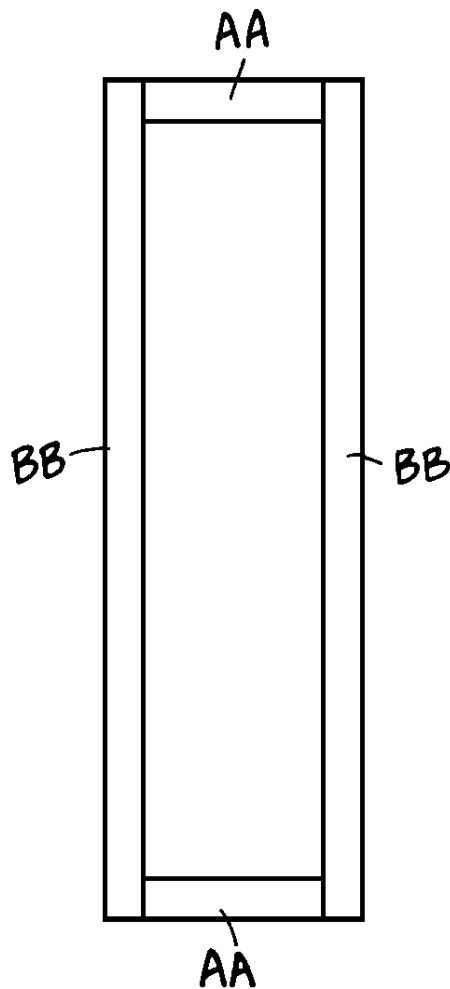

Figure 14
1. The wardrobe door is made in the same manner as the drawer fronts and the cabinet doors; only the measurements are different. Start by cutting one 17- $\frac{1}{2}$ " x 64" wardrobe door (Z) from laminated pine.
2. Cut two 15"-long top/bottom wardrobe door trim pieces (AA) from 1 x 3 pine
3. Cut two 66- $\frac{1}{4}$ "-long side wardrobe door trim pieces (BB) from 1 x 3 pine.
4. Using *Figure 14* as a guide, arrange the four trim pieces (AA and BB) on a level surface. Center the door front (Z) over the trim pieces, leaving a 1- $\frac{1}{4}$ " border of trim visible on each side of the wardrobe door front and a 1- $\frac{1}{8}$ " border of trim visible at the top and bottom of the door front. Glue the pieces together and secure with 3d finishing nails spaced 4" apart.